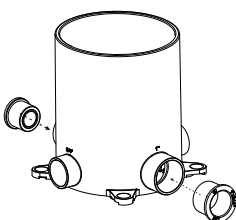
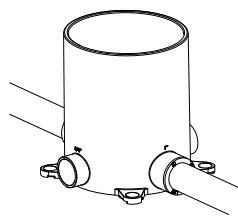

Fig. 3
Fig. 4
3. Apply solvent cement to conduit and secure the conduit into the corresponding holes in the box. (Fig.3 & Fig. 4)